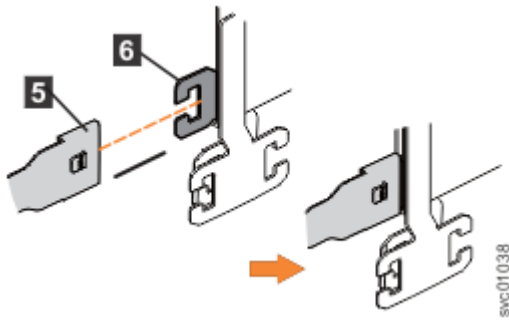

Figure 45. Attach the support rail connector of the upper CMA to the right support rail
4. Attach the support rail connector on the upper CMA assembly (5) to the connector base on the right support rail (6), as shown in Figure 45 on page 59.